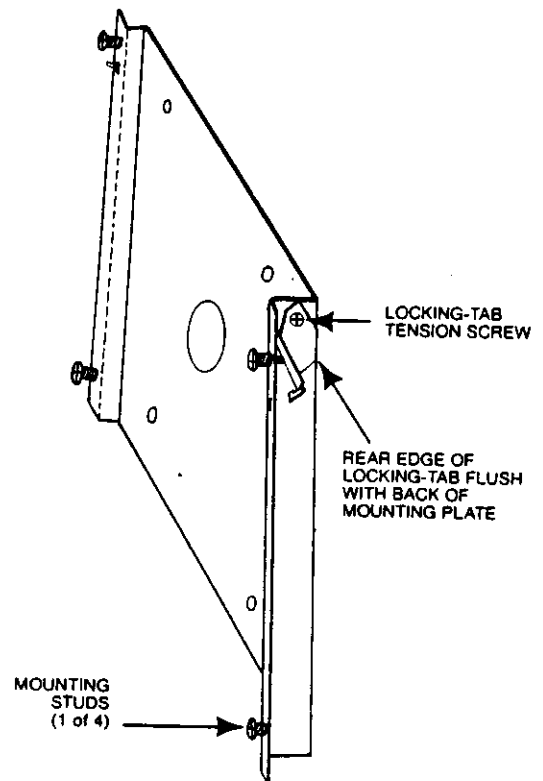

FIGURE 2—WALL MOUNTING PLATE
2.1 A locking-tab, with tension screw, is located behind each raised edge of the wall mounting plate, in the upper corner. See Figure 2. Loosen the tension screws one full turn each. Work the tabs back and forth by hand to insure that they move freely.
2.2 Position both locking-tabs so that the rear edge of the tab is flush with the back of the plate. See Figure 2.